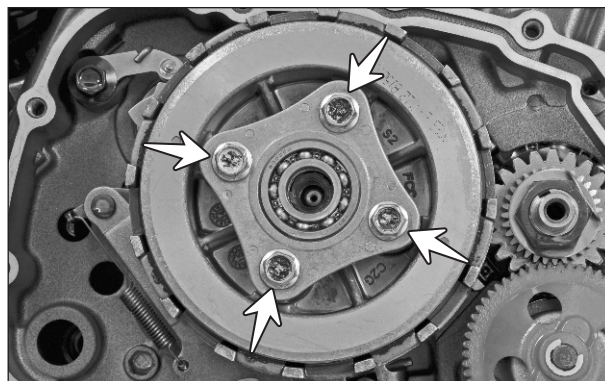

Fig. 3.9
- Remove the hexagonal flange head bolts (M6x25 - 4 nos.) from the plate clutch release mounting. (Fig. 3.9)